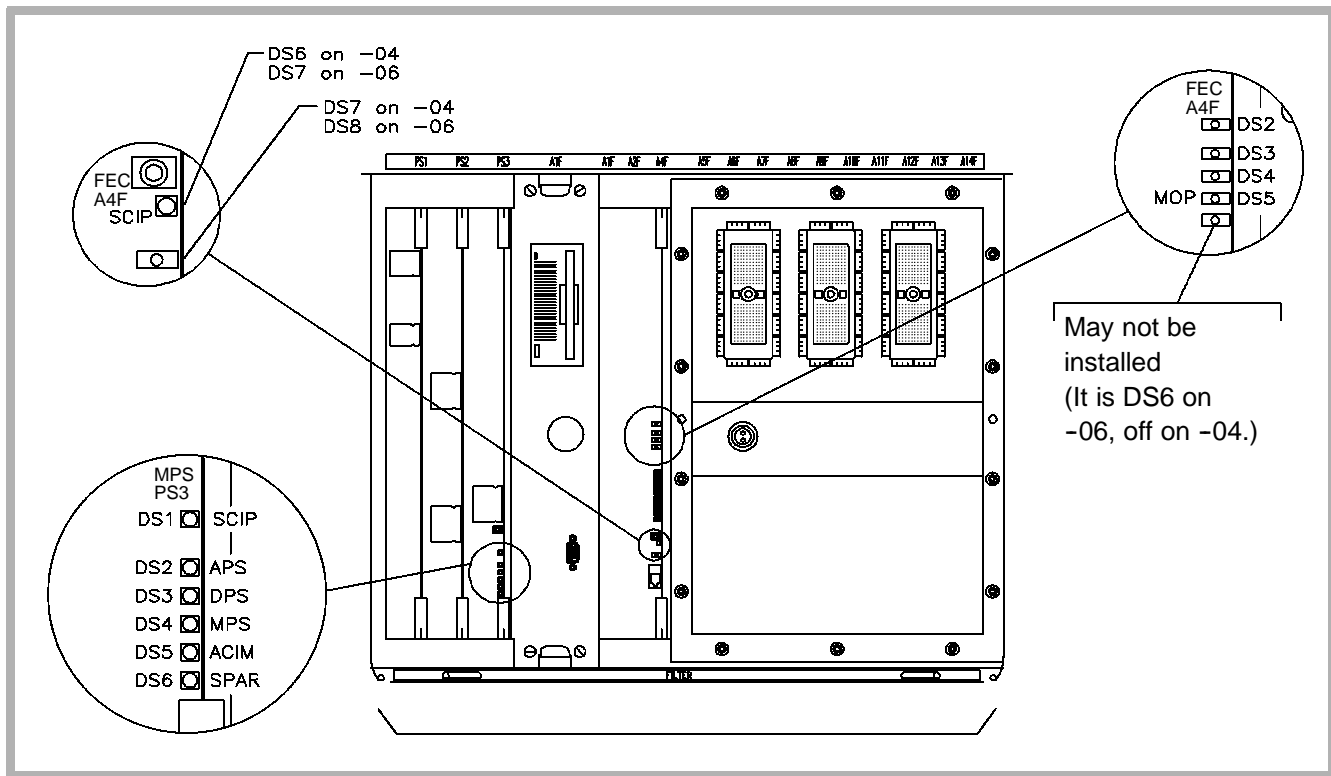
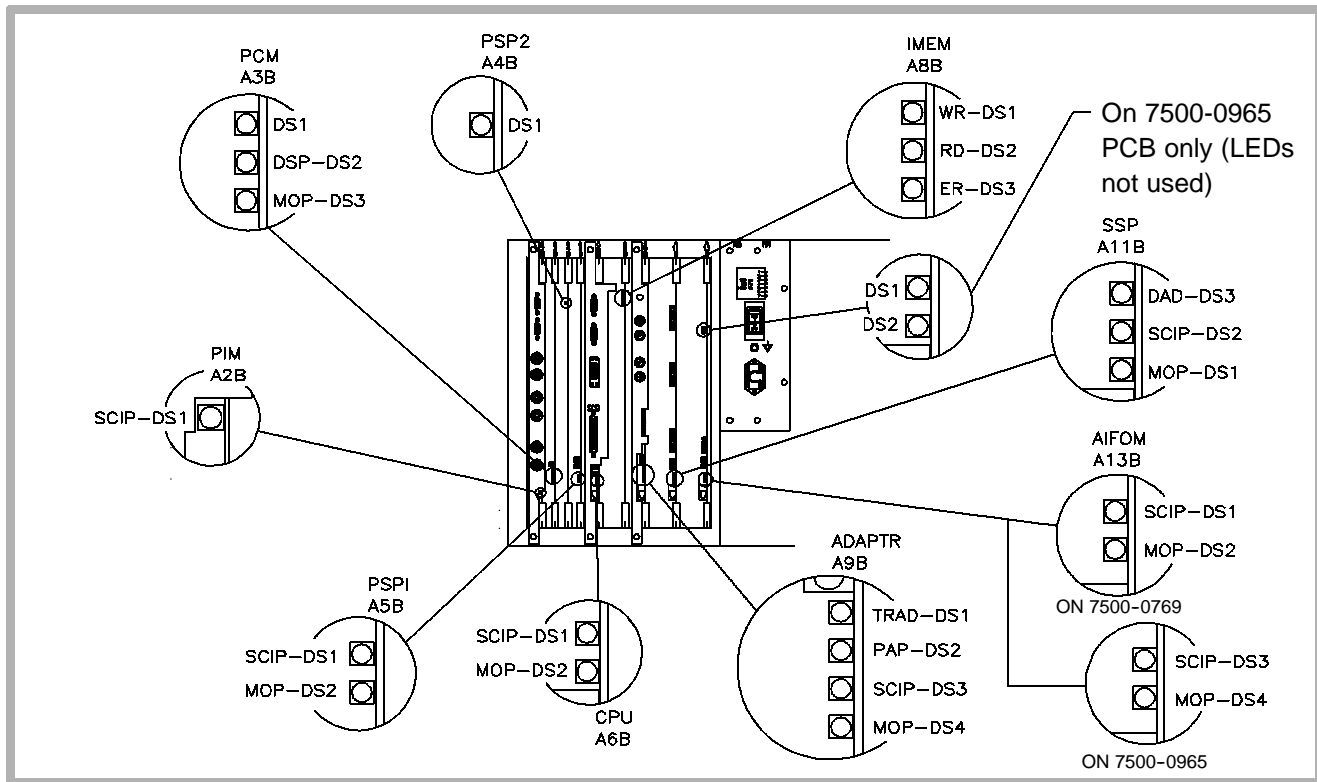
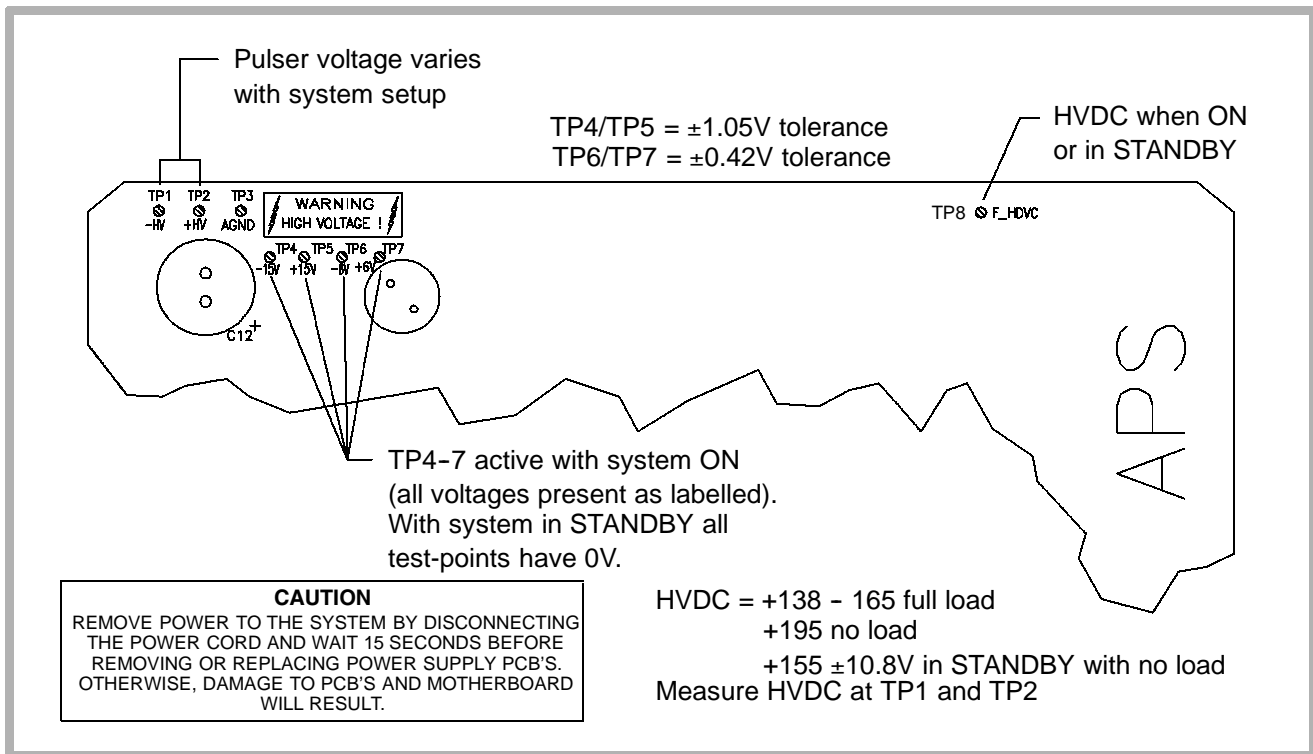

Figure 9-1. Card Cage PCB LED Locations (Front)
Figure 9-2. Card Cage PCB LED Locations (Rear)
Figure 9-5. APS Voltage Measurement Locations (PS1) 7500-0764-04
8. Check the LEDs on each PCB. Refer to **Figure 9-1**, **Figure 9-2**, **Table 9-1** and **Table 9-2**.
NOTE: The system monitors the power supply enable voltages to ensure they are within tolerance. If the voltages are not within $\pm 7\%$, the system will shut down. If the system shuts down, none of the voltages will be enabled (all voltages will be 0V). If the system shuts down due to a power supply failure, check the MPS LEDs using **Figure 9-1** and **Table 9-2**. Refer to **Figure 9-3**, **Figure 9-4**, **Figure 9-5**, **Figure 9-6**, and **Figure 9-7** for PCB voltage locations.